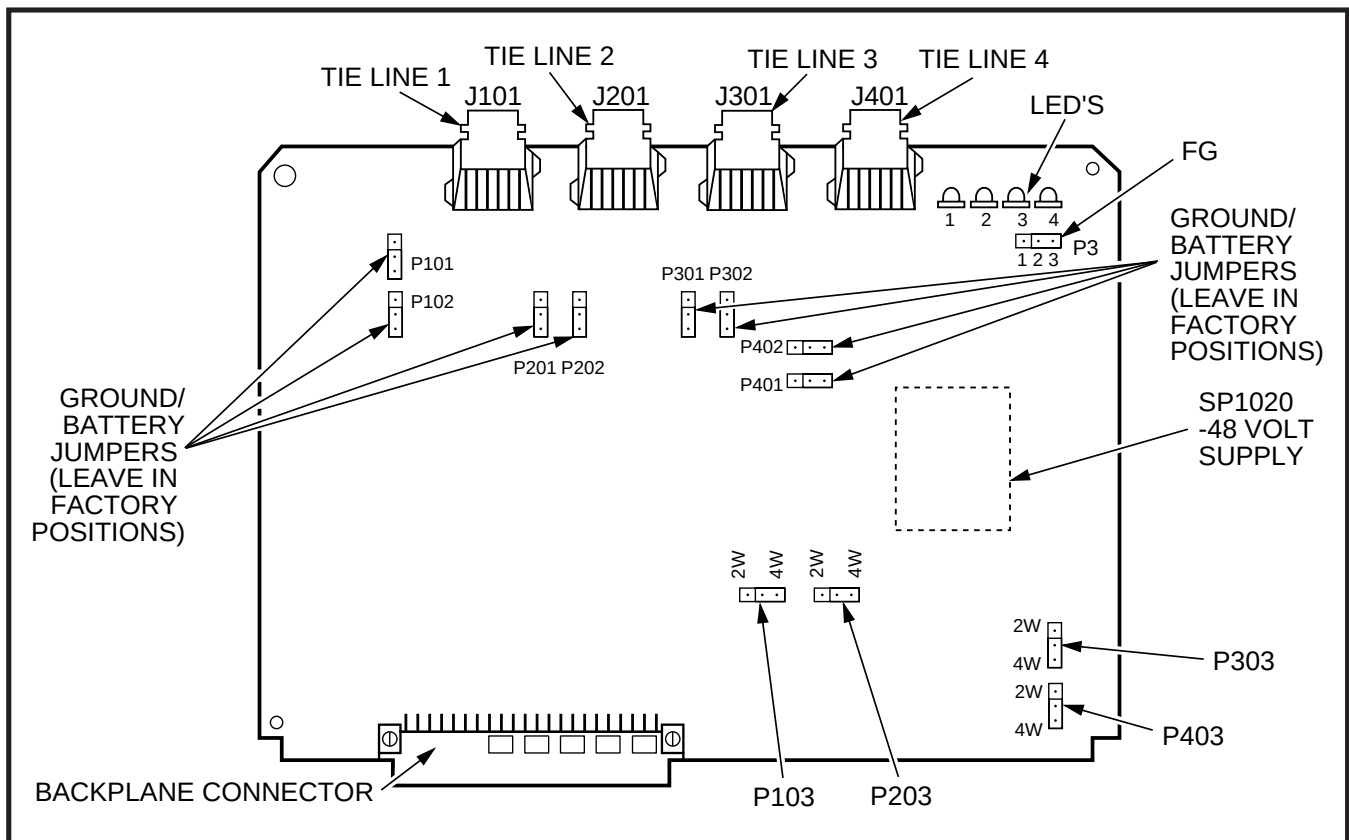

FIGURE 6-10
9.02 PEMU controls, indicators, and interface connectors are shown in Figure 6-10 and described in Table 6-F.